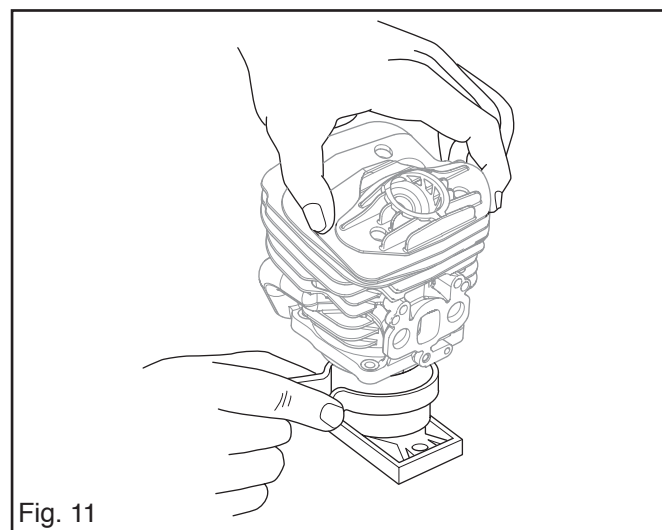

Fig. 11
7. Compress the piston ring, either by hand or with tool 502 50 70-01. See fig. 11. Carefully fit on the cylinder.